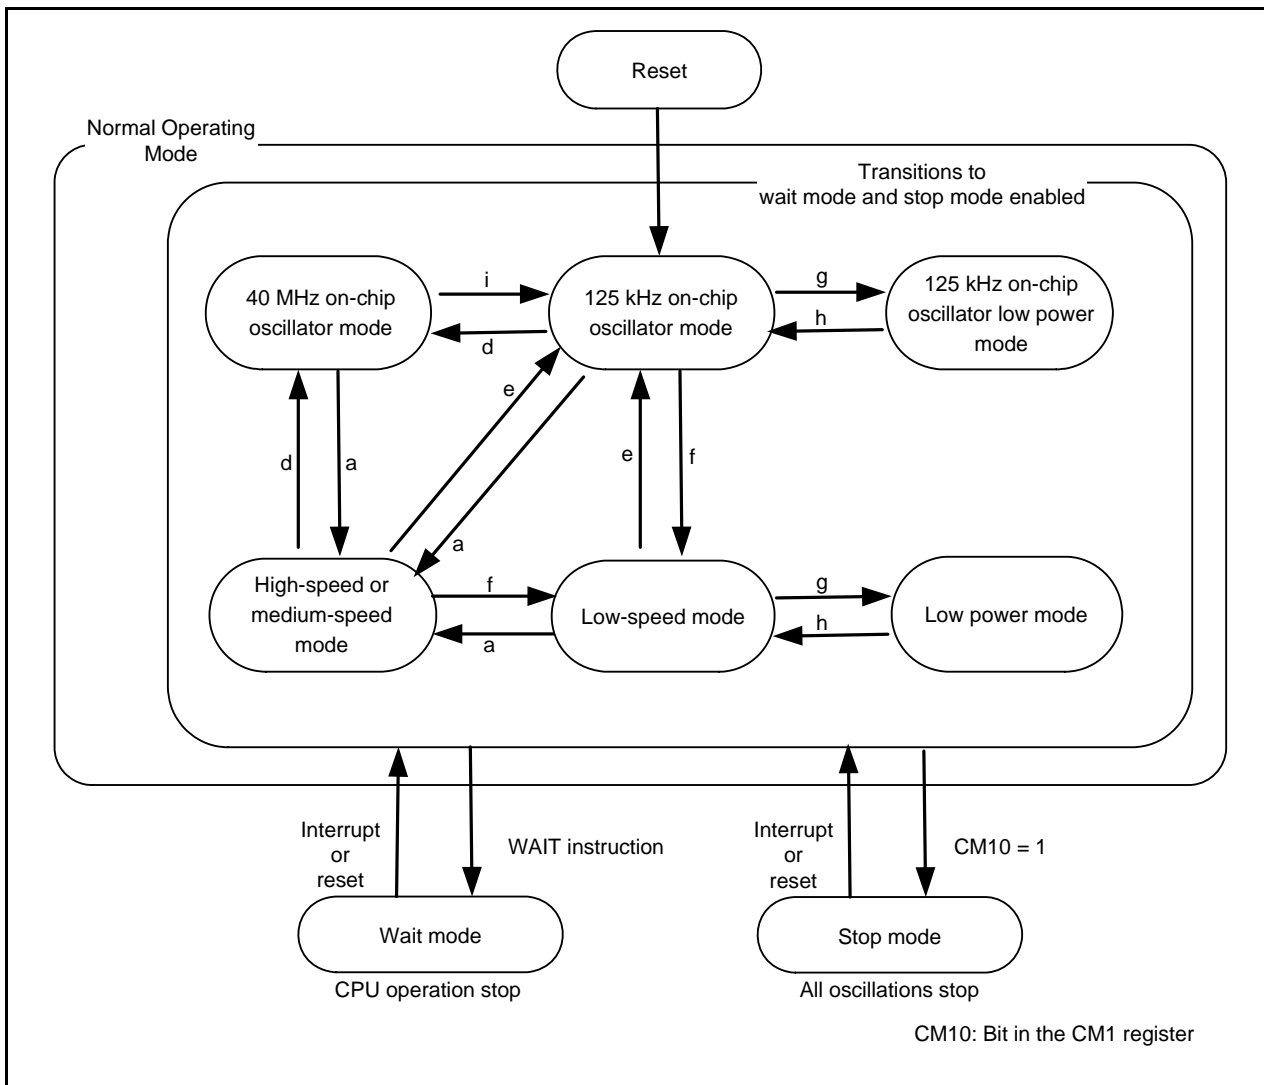

Figure 9.1 Clock Mode Transition
Figure 9.1 shows Clock Mode Transition. Arrows indicate possible mode transitions.
- To change the mode, follow procedures a and d to i listed below. To access registers and bits, refer to 9.2 "Registers". Letters a and d to i correspond to those in Figure 9.1 "Clock Mode Transition".
- (1) Select the main clock and wait until the oscillation stabilizes. Refer to 8.3.1 "Main Clock".
- (2) Set the CM06 bit to 1 (divide-by-8 mode).
- (3) Set the CM21 bit to 0 and the CM07 bit to 0 (main clock selected as CPU clock source).